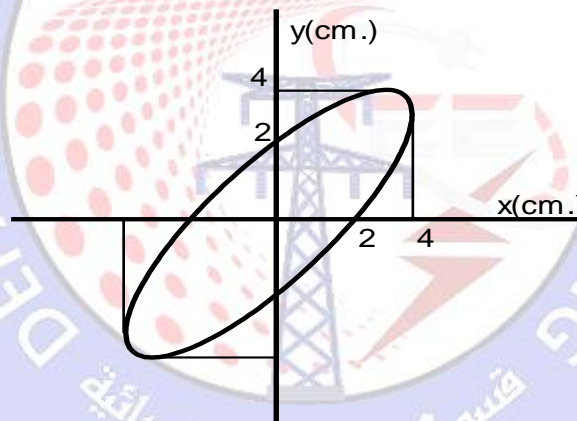

Figure.4
1. The Lissajous pattern shown in figure.4 is observed on the CRT screen. Find the phase shift between the signals applied to the X and Y inputs of the scope.